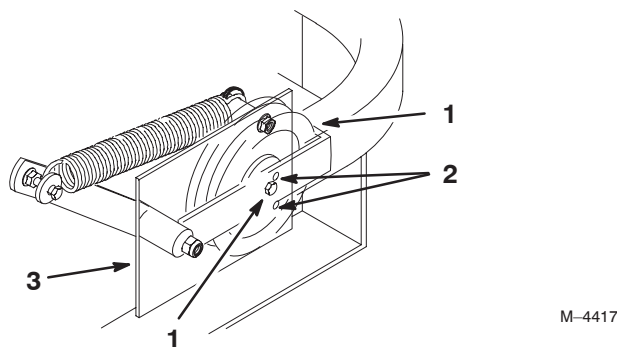

Figure 71
Important Check and make sure the belt is installed into both the front and rear belt guides (Fig 71).
4. Check the belt tension. The spring loaded idler center bolt needs to be near the top alignment hole in left support plate (Fig 71).